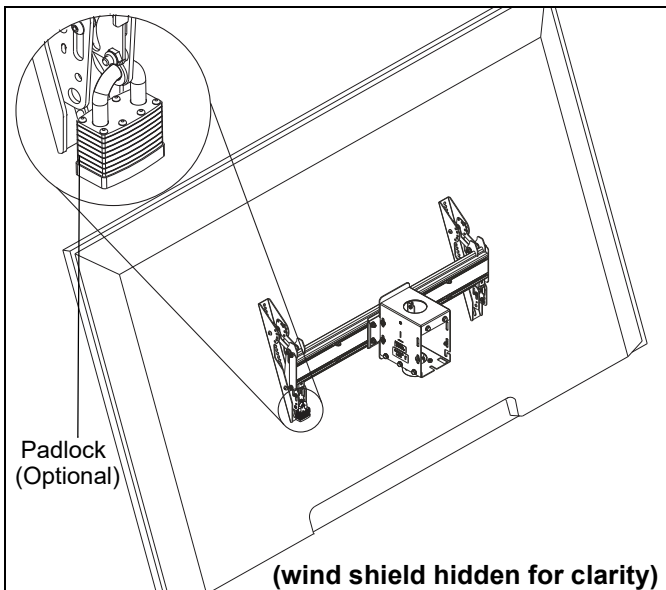

Figure 24
1. Add padlock (not included) to each interface bracket to lock latch and to provide security for displays. (See Figure 24)